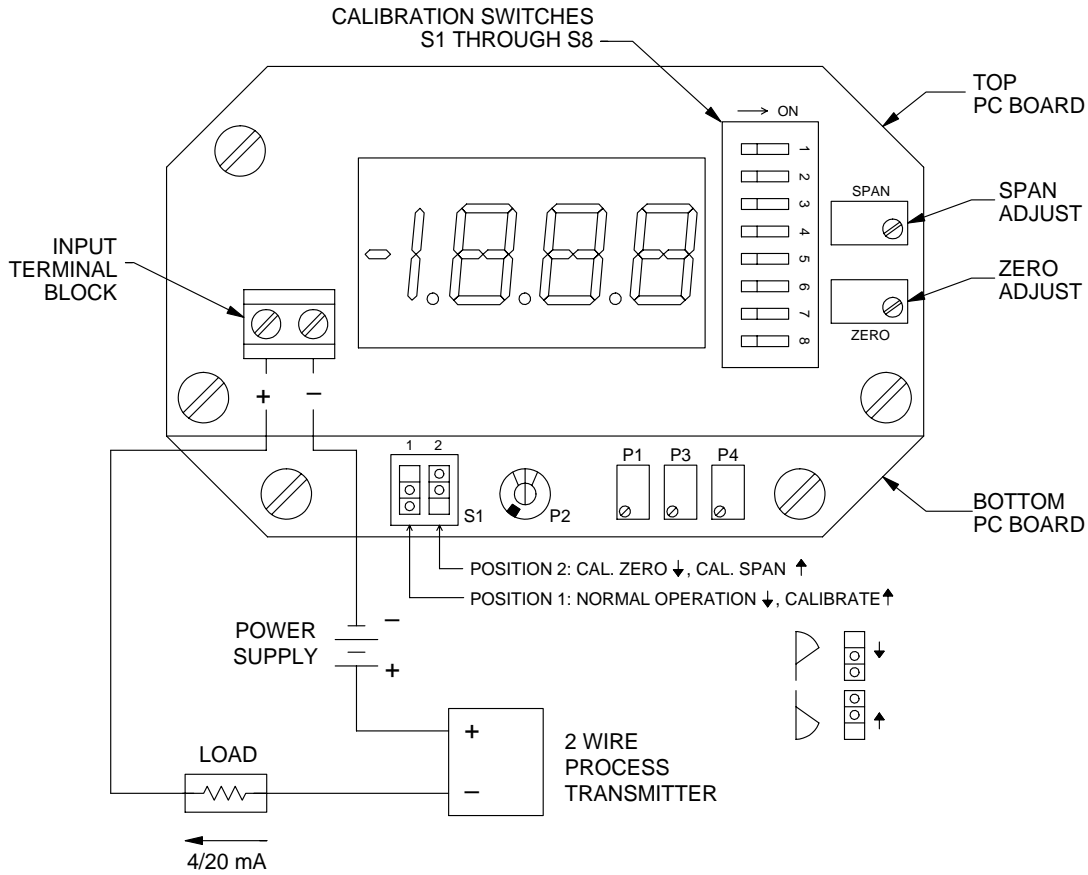

FIG.2 TYPICAL FIELD WIRING CONNECTIONS AND LOCATION OF CALIBRATION SWITCHES AND POTS
To calibrate the 18-LPI-1V, remove the front cover to expose the terminal block, calibrating switches and the span and zero pots, all located on the top PC board (Figs. 2 and 3).
1. Set the calibrating switches (Fig. 2) for the desired span and offset ranges as described in the preceding section.
2. Set switch 1, position 1 (Fig. 2) located on the lower PC board to the calibrate position